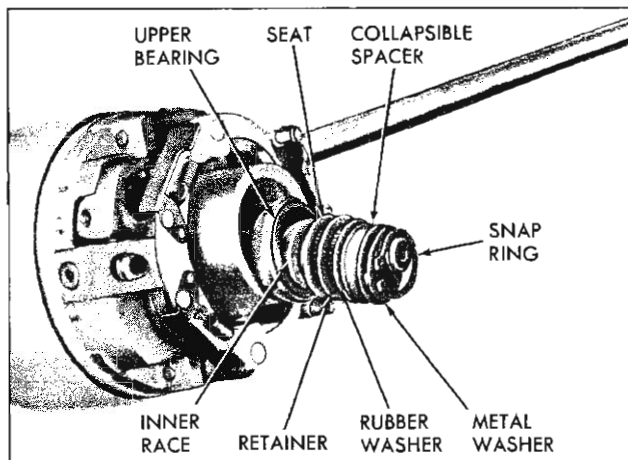

Fig. 37—Bearing Preload Parts
14. Pry out the horn contact assembly and allow it to hang free. Then install the steering shaft upper bearing, inner race, seat, retainer, rubber washer, a new collapsible spacer, washer, and, using snap ring pliers J-4880, install a new retainer ring over the steering shaft (fig. 37).